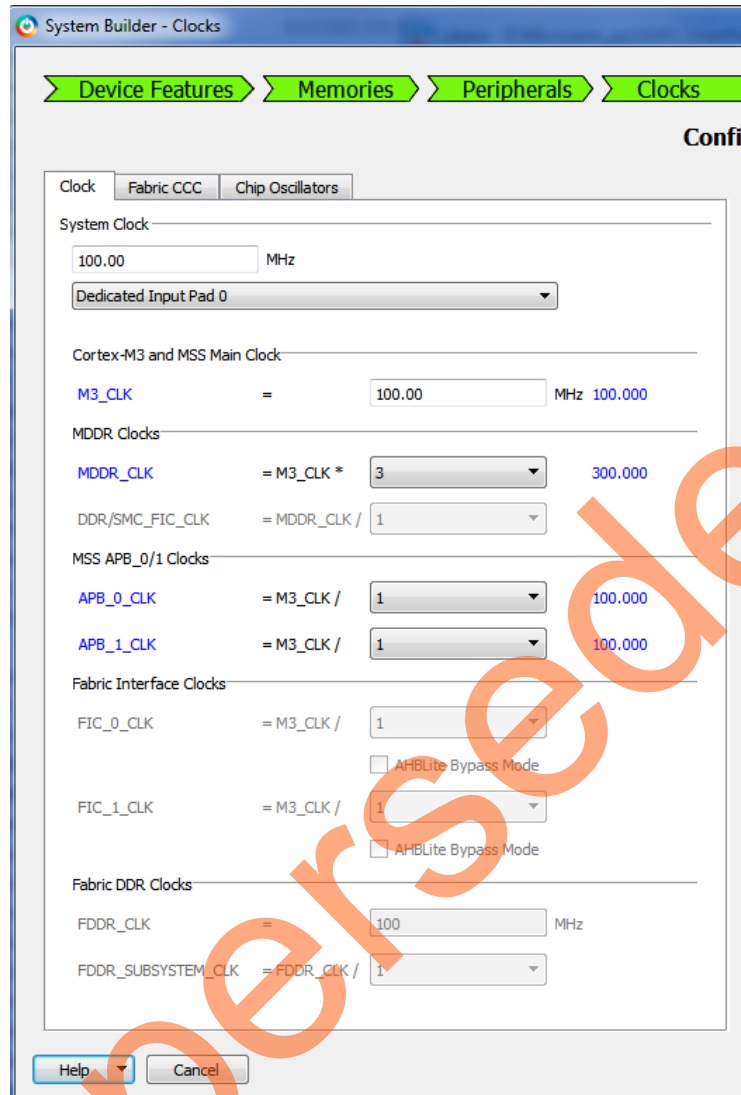

Figure 9. System Builder Configurator – Clock Settings Page
12. Click **Next**. The System Builder- **Clock Settings** page is displayed, as shown in Figure 9. Select the following options:
Note: You can see the clock and the different blocks it drives by clicking the clock name shown in Blue color. For example, click the MDDR_CLK shown in Figure 9 and the clock and the blocks that the clock is driving are displayed on the right-side panel.